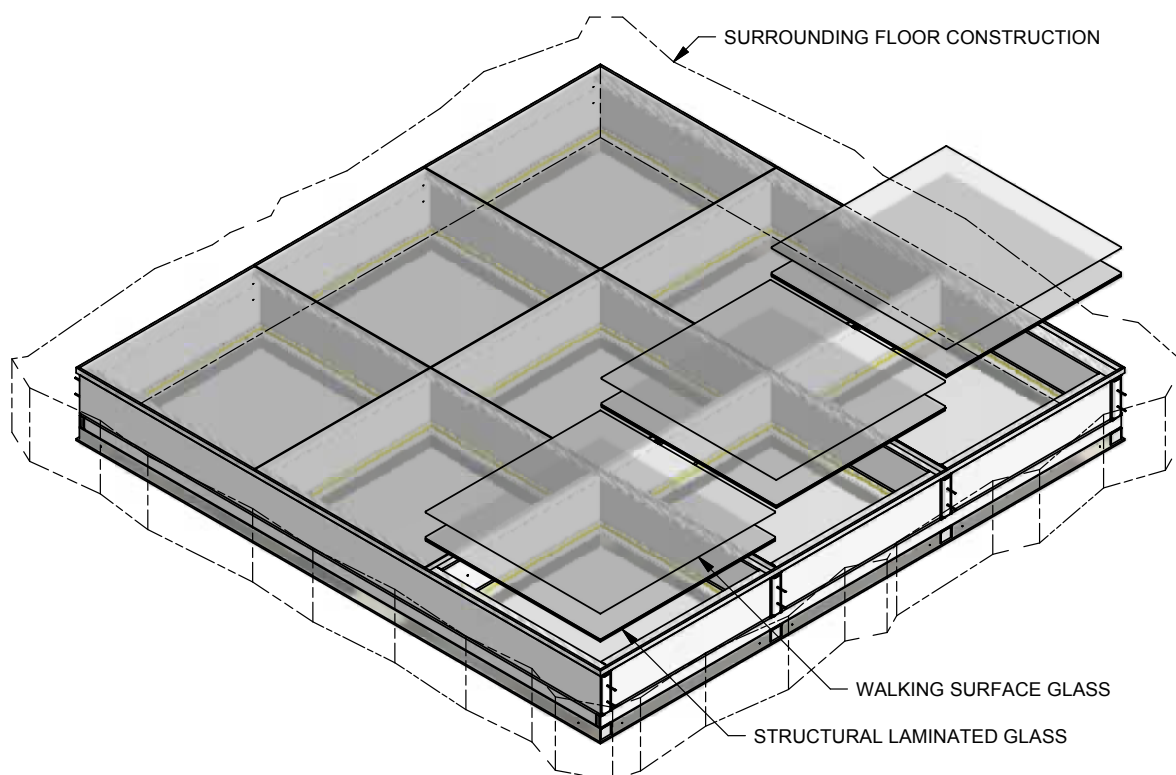

Figure 12: Top Glass Installation
2. Ensure the silicone gasket is clean and clear of errant material, place the structural glass onto gasket, keeping an even joint between all pieces of glass (See Figure 12).
3. Place the walking surface onto the structural layer, if there is a frit or other non-slip surface, make sure it is facing up (See Figure 12).